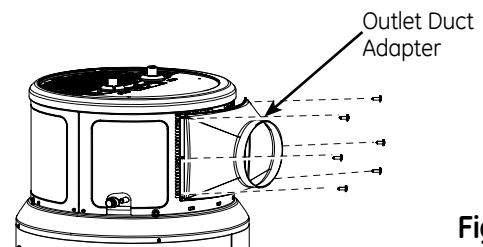

Figure 7
1. Orient the outlet duct adapter as shown in Figure 7 by aligning the locating features with the corner holes in the rear shroud grille opening.